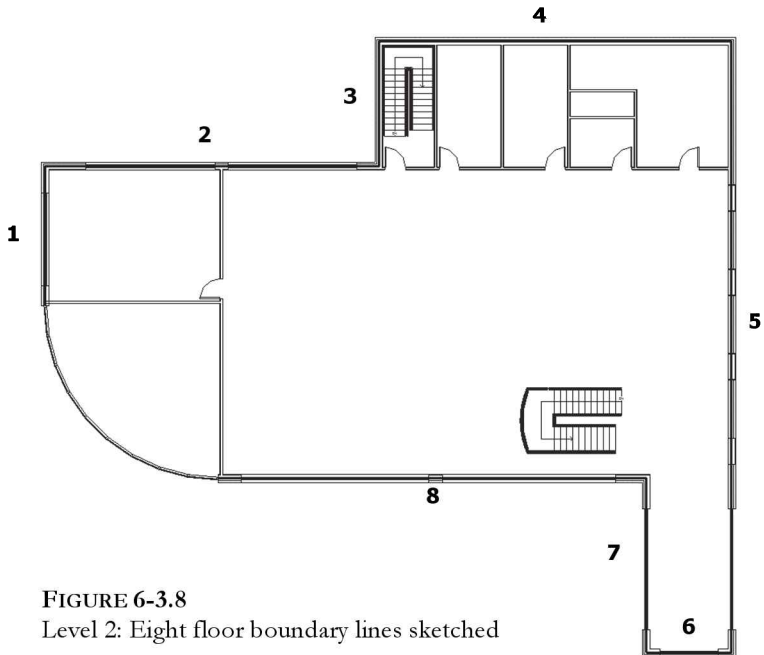

FIGURE 6-3.8
22. Using the *Pick Wall* icon, select the walls shown in Figure 6-3.8: